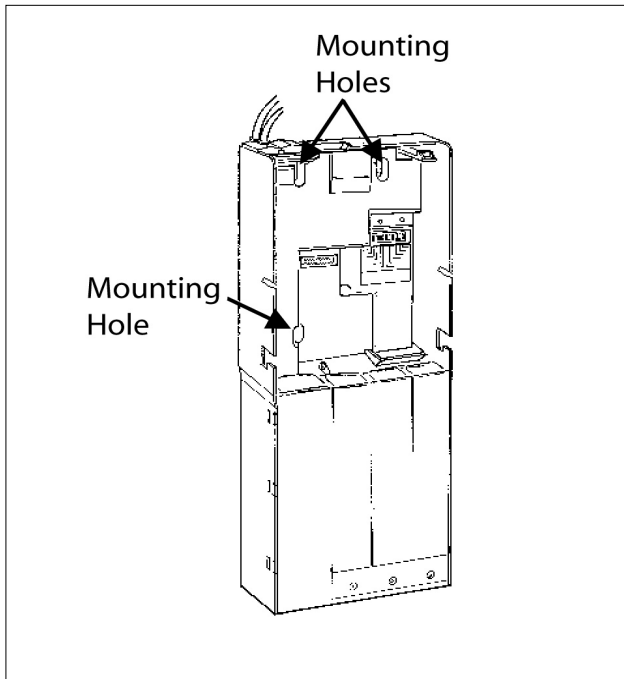

Figure 3
3. With the acceptor removed, set the mounting holes in the back of the changer housing over the mounting screws in the vending machine. Tighten securely (see Figure 3). Do not over tighten as this could damage the changer housing.